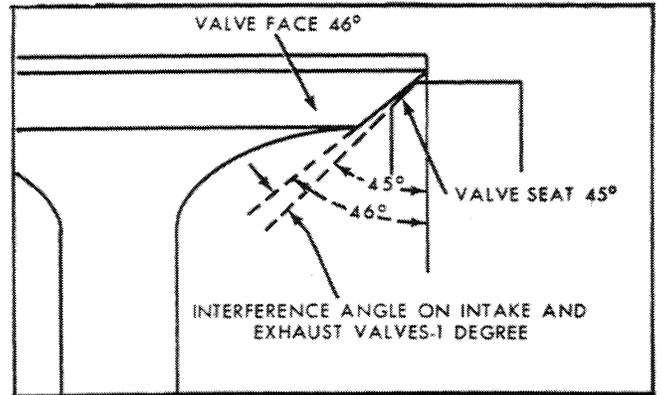

Figure 12
1. The valve refacing operation should be closely coordinated with the valve seat refacing operation so the finished angle of the valve is 1° more than the valve seat to provide an interference angle for better seating, Figure 12. Adjust the refacing tool to obtain a face angle of 46° as shown in Figure 12. Remove only enough stock to clean up the pits and grooves. Check the edge of the valve head; if less than 1/32"